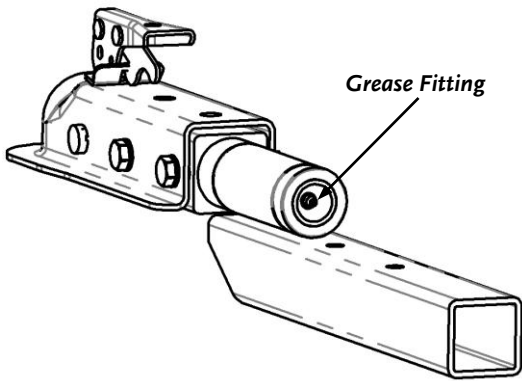

Figure 55
2. Apply enough quality general-purpose lithium grease with a hand-pumped grease gun to each Axle Pivot Pin and Tow Hitch Swivel Zerk Fitting, so a small amount of Grease comes out of the Fitting(s), or area being greased (**Figures 55 & 56**)